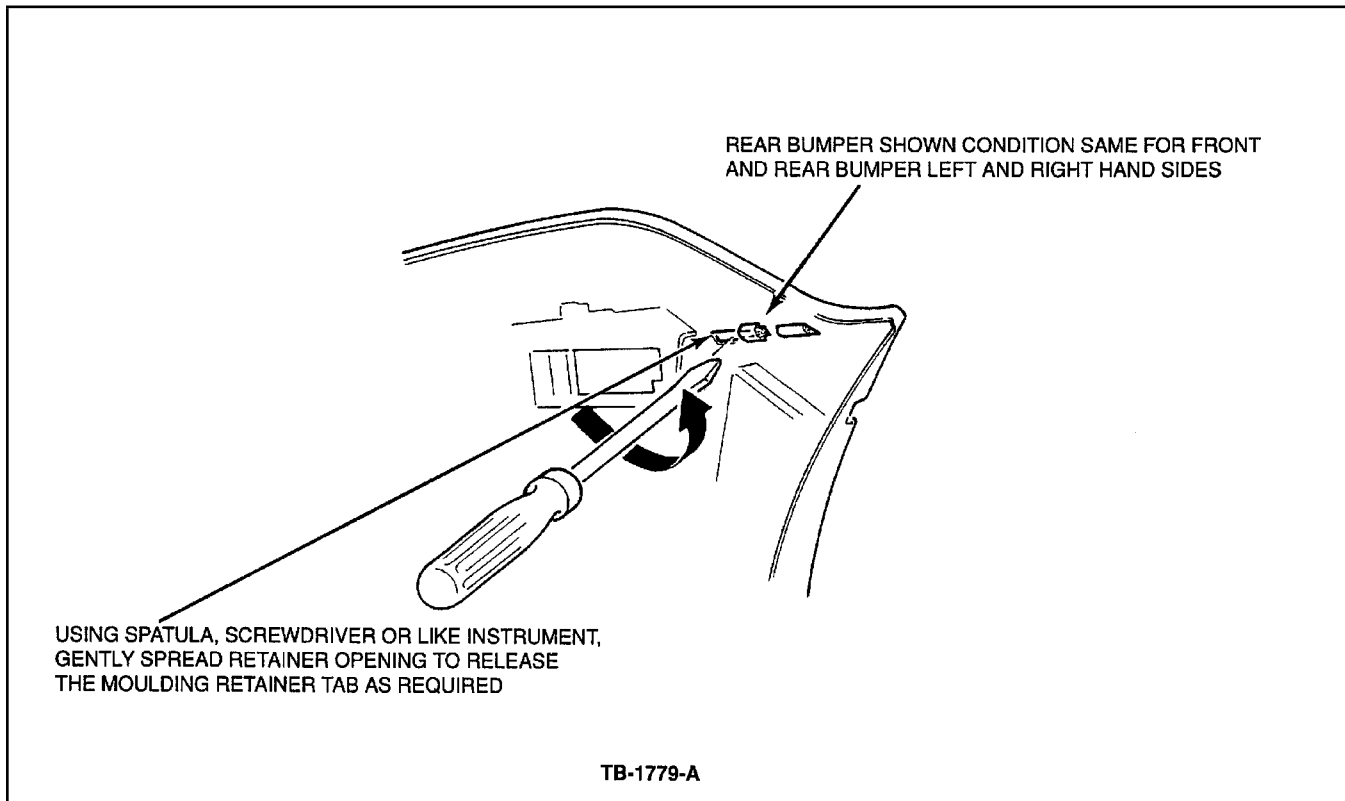

Figure 5 - Article 90-22-4
1. Beginning from tab #1, use a thin spatula or similar tool to gently spread the retainer opening on the inner face of the bumper to release the moulding retainer tab, Figure 5.